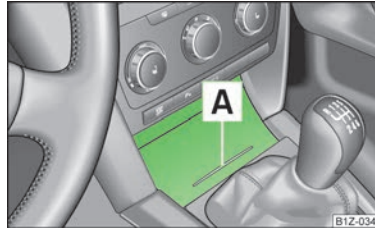

Fig. 72
► Press on the bottom part of the storage compartment in the area **A** » Fig. 72, and the lid folds open.